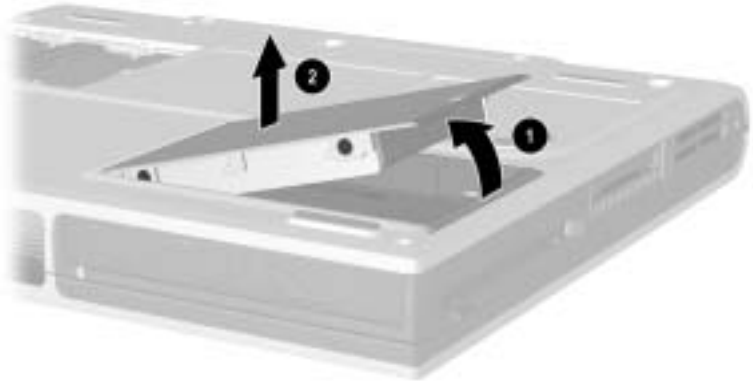

Figure 5-7. Removing the Hard Drive
- d. Lift the front edge of the hard drive ❶ until it rests at an angle (Figure 5-7).
- e. Remove the hard drive from the hard drive bay ❷.